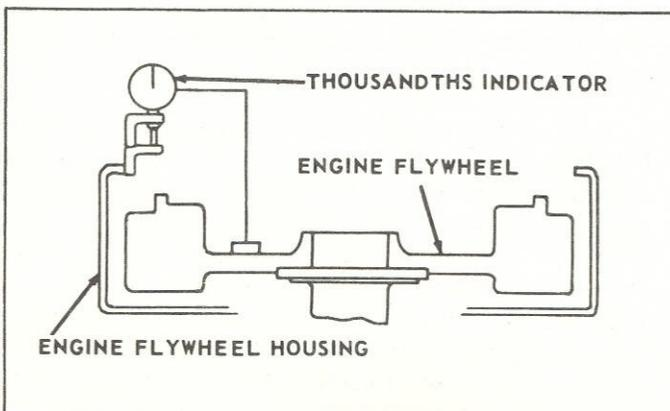

Figure 38. Checking the Bore of the Engine Flywheel Housing.
C. Checking Bore of Engine Flywheel Housing. With indicator bolted as in Paragraph 50B above, adjust the indicator stem so that it will ride on the bore of the engine flywheel housing (fig. 38). Rotate the engine flywheel and note the bore eccentricity of the engine flywheel housing bore. The bore eccentricity must not exceed .008 inch.